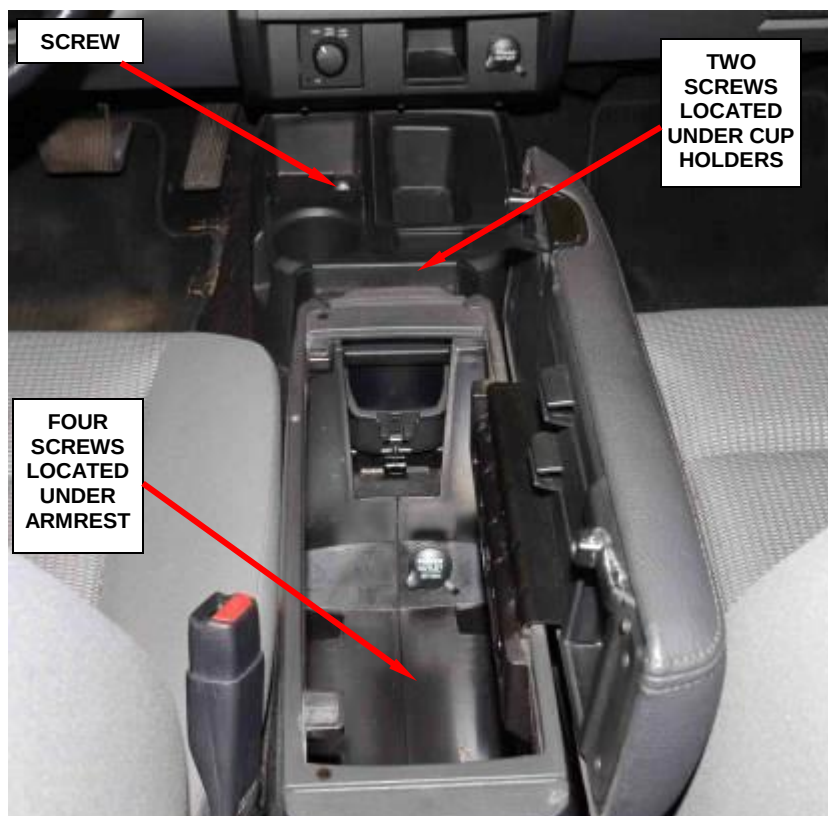

Figure 124 – Floor Console (ATX Shown)
- d. Remove the screws that secure the floor console to the floor panel (Figure 124).